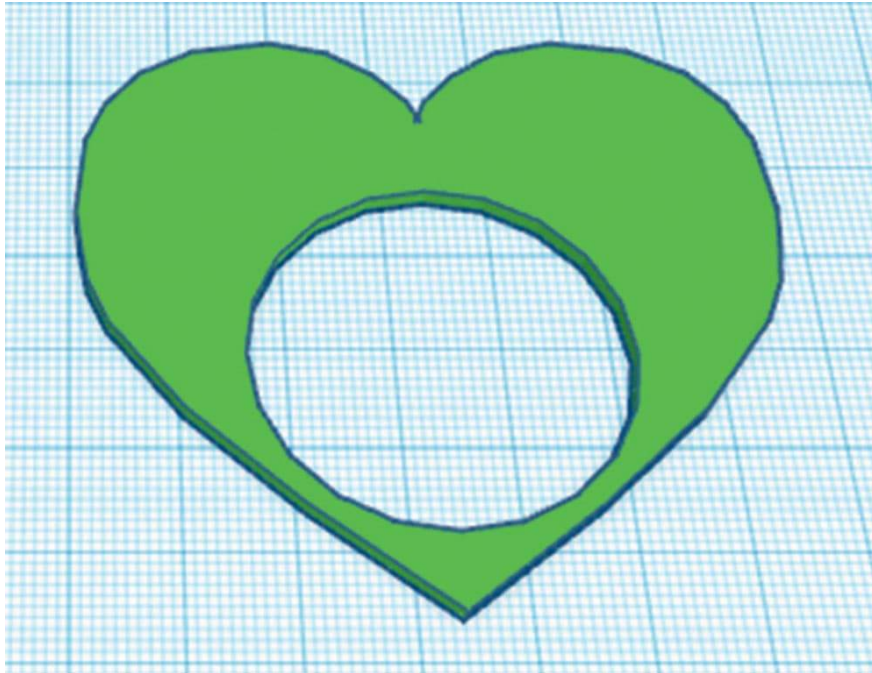

FIG. 8: Create a large hole in the solid heart.
3. Make a hole in this shape as big as possible following steps 2 through 5 shown here. No need to rotate it for the earring (fig. 8).